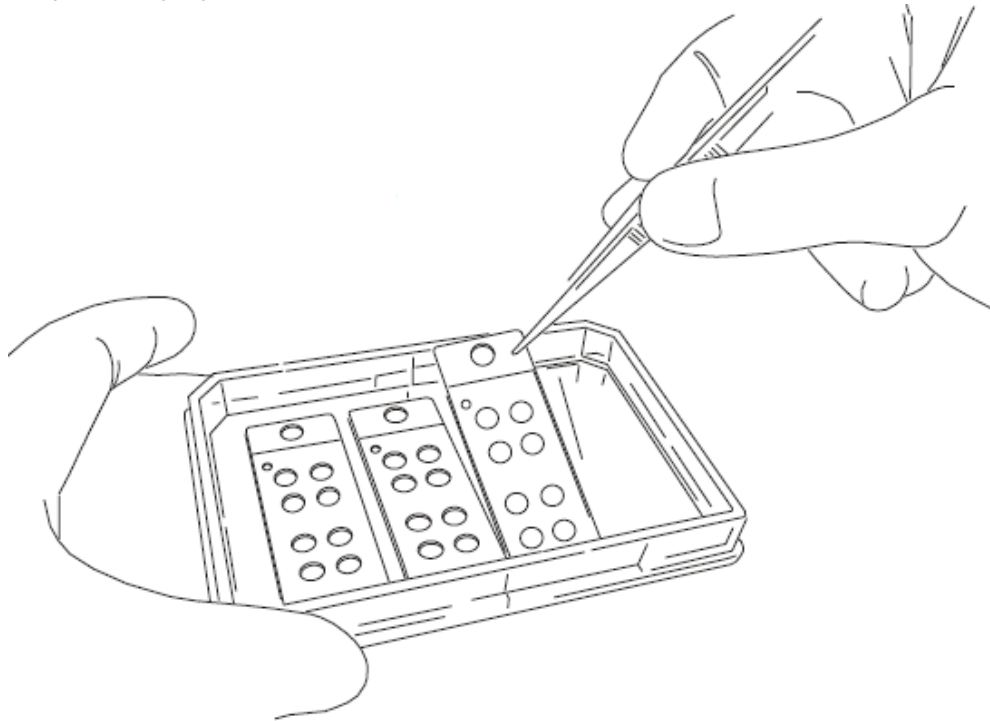

Figure 7
8. Figure 7 depicts how to remove a MultiWell™ Coverslip from a plate. Grasp the silicone with a forceps and pull *slowly* upward.